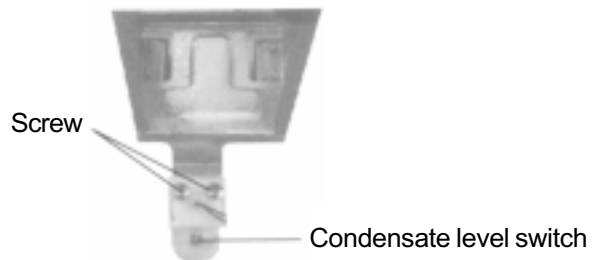

Figure 22
- ⑫ Disassemble the condensate level switch.
- Unscrew the two screws as shown in figure 22 with a screwdriver.